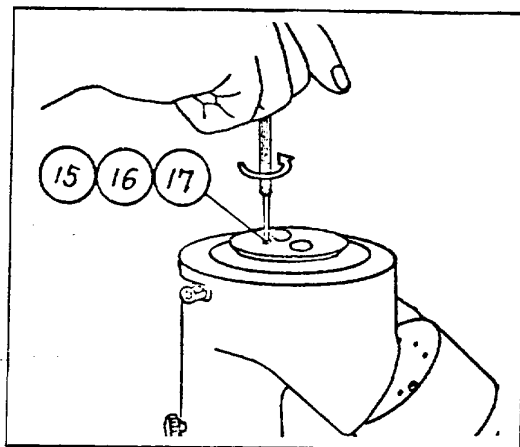

Fig. 11
9) Removing the spring retainer (17), take out the spring (16) and the steel ball (15) (Fig. 11).